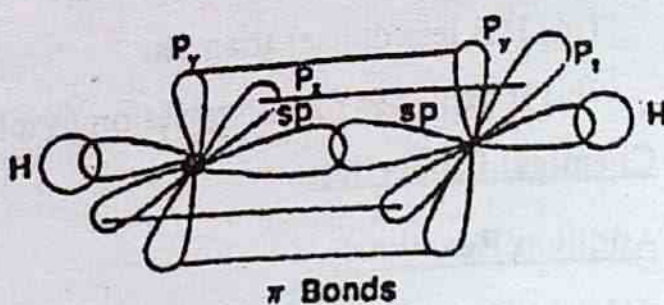

Fig. 7.6 Structure of ethyne
**Structure of Ethyne:-** Each carbon atom in acetylene is attached to one hydrogen atom by a single covalent bond ( $\sigma$ -bond) and to another carbon atom by a triple bond. Thus each carbon uses  $\text{sp}^1$  hybridized orbitals and two unhybridized 2p orbitals ( $p_y$  and  $p_z$ ) to form its  $\pi$ -bonds ( $\pi$ -bond). It is shown in the figure 7.6